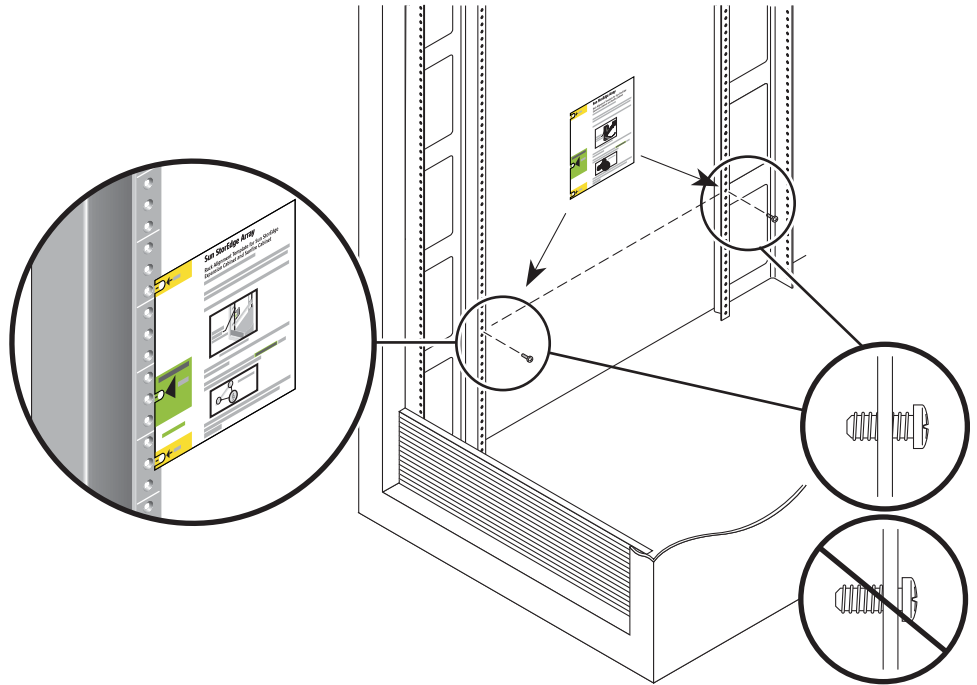

FIGURE 2-3 Inserting Mounting Hole Screws and Positioning the Rack Alignment Template
2. Insert four 10-32 screws (two per side) in the front and back mounting holes of the cabinet (FIGURE 2-3). Do not tighten at this time. You will hang the side rails on these screws.
3. Locate the proper mounting holes by using the rack alignment template for the Sun StorEdge Expansion cabinet (FIGURE 2-3).